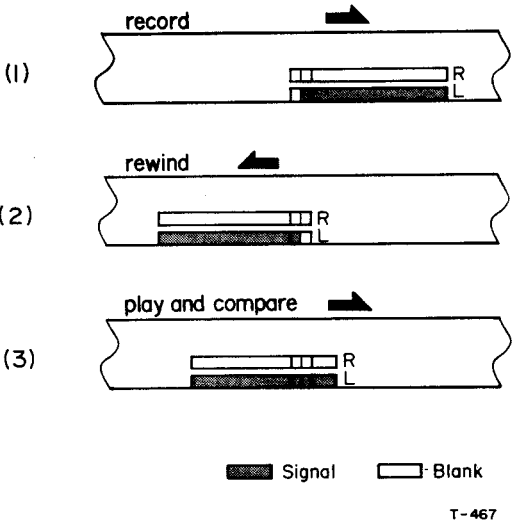

Fig. 6-20 Channel Separation Check Procedure
- Numbers in parentheses correspond to steps in Fig. 6-20.